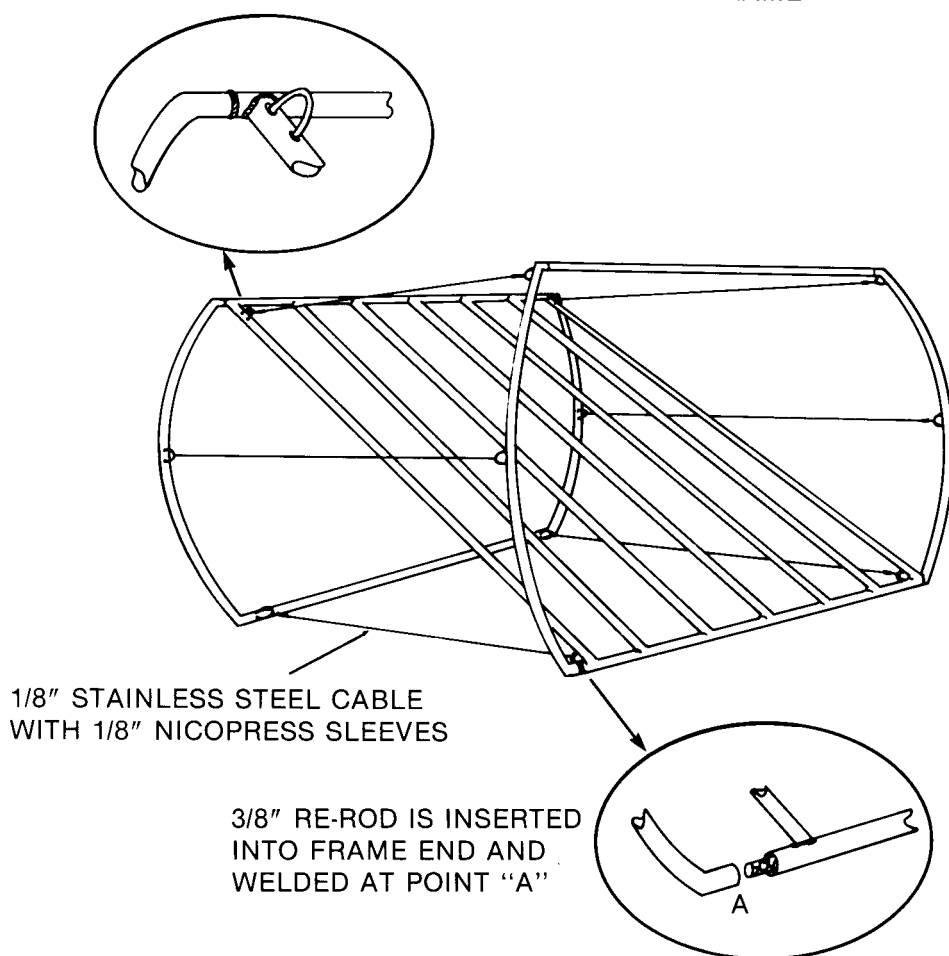

FIGURE 4. COMPLETED STEEL FRAME
1. Connect the grid deflector to the end frames by inserting the 3/4 in. of exposed re-rod at each end of the grid deflector into the 1-1/2-in. nipples on the end frames. The frames and deflector grid should be connected so that when in the upright position, the half links are positioned as in figure 4.
2. Weld the re-rod to the end frames at the points indicated in figure 4. The reinforcement rod should not be welded to the deflector grid and should rotate freely inside the top and bottom bars of the grid.
- a. Cut six (6) 48-in. lengths of 1/8-in. stainless steel cable.
- b. Brace the device frame in an upright position using three (3) 36-in. sections of 3/8-in. galvanized pipe or other material between the front and back hoop. Secure the braces in place using twine.
- d. Shackle six (6) cables to the welded half links on one hoop.